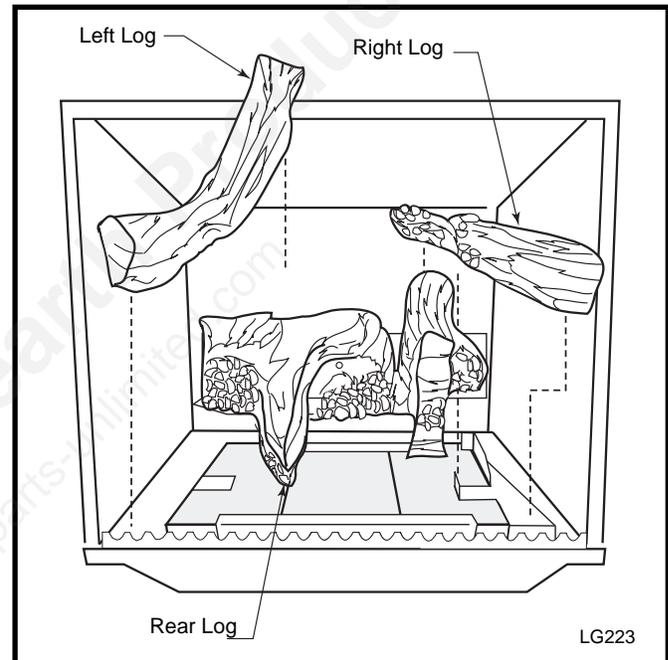

Fig. 23 Install rear, left and right logs.
2. Install the rear log by placing it on the sheet metal shelf at the back of the firebox. (Fig. 23) The log should touch the back wall of the firebox and be centered.
3. Install the right log by placing it on the sheet metal bracket behind the grate with the right end of the log, "the thicker end", touching the grate and the right side the firebox. Swing the left end of the log "painted end", backward until it comes in contact with the branch on the rear log. Set the log down over the bent tab on the right. When the log is in place it rests on the tab mentioned earlier and the tip of it comes in contact with the branch on the rear log. (Fig. 23)